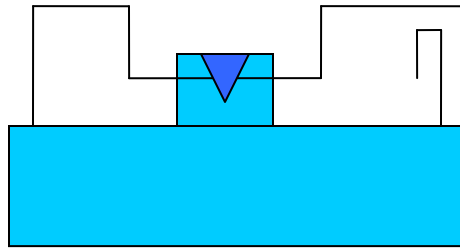

Fig. 4.1 – Programming Pin (CON30) Unfastened
9. Unfasten the programming pin (CON30). (*See Fig. 4.1*).